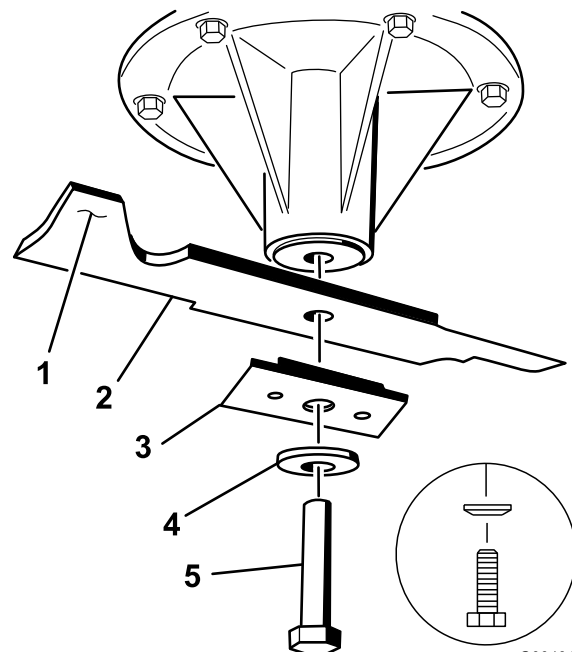

Figure 64
3. For 52-inch mower decks, install the blade, stiffener, curved washer, and the bolt (Figure 64).